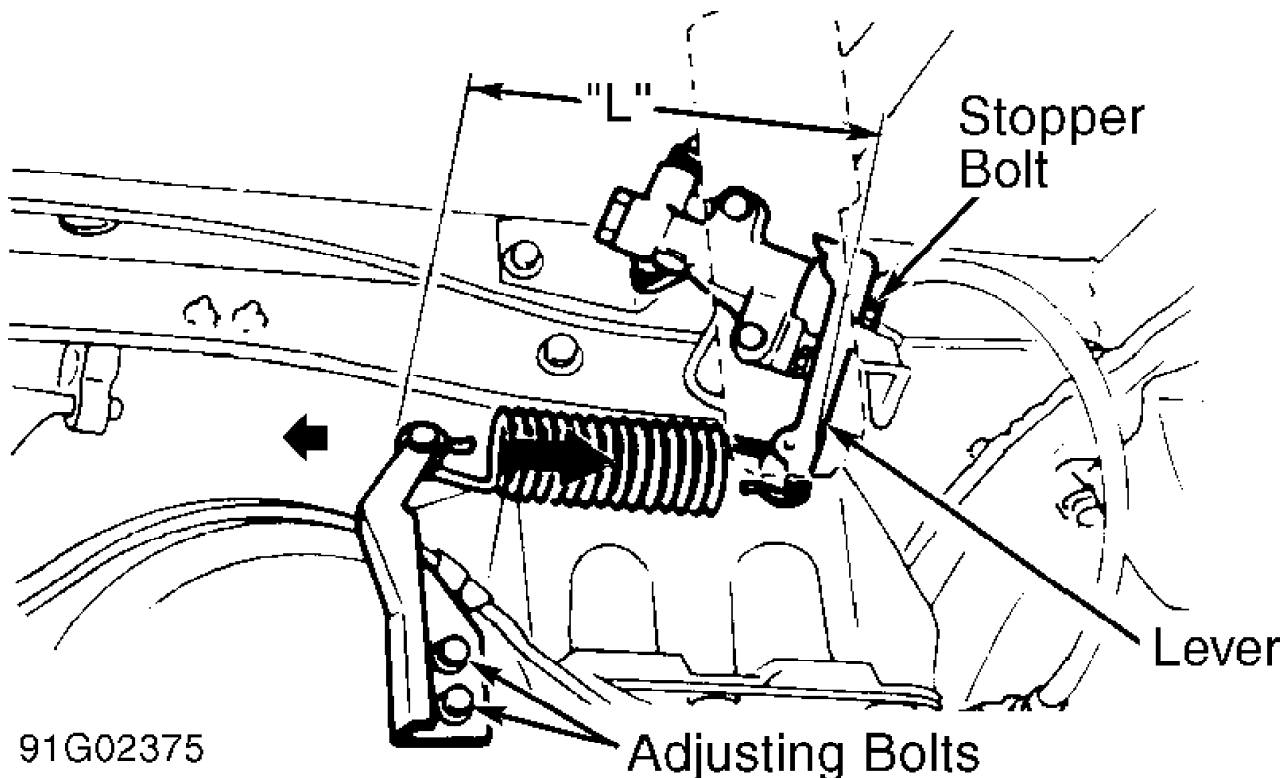

Fig. 2: Adjusting Load-Sensing Proportioning Valve (Pathfinder & Pickup)
2) Attach a lever to load-sensing proportioning valve stopper bolt. Adjust spring length to about 7.44" (189mm). See Fig. 2. Install 2 pressure gauge, one to front brake bleeder and one to rear brake bleeder. Bleed air from front and rear bleeders. Depress brake pedal until front brake pressure reading is 1422 psi (100 kg/cm²). Check rear brake pressure. See REAR BRAKE PRESSURE SPECIFICATIONS TABLE.
by axle center. Depress brake pedal until front reading is 1422 psi (100 kg/cm²). Rear brake pressure reading should be as specified. See REAR BRAKE PRESSURE SPECIFICATIONS TABLE. If readings are not correct, adjust spring bracket. See Fig. 2. Repeat test.
3) Set a 221 lbs. (100 kg) weight slowly on rear of vehicle by axle center. Depress brake pedal until front reading is 1422 psi (100 kg/cm²). Rear brake pressure reading should be as specified. See REAR BRAKE PRESSURE SPECIFICATIONS TABLE. If readings are not correct, adjust spring bracket. See Fig. 2. Repeat test.